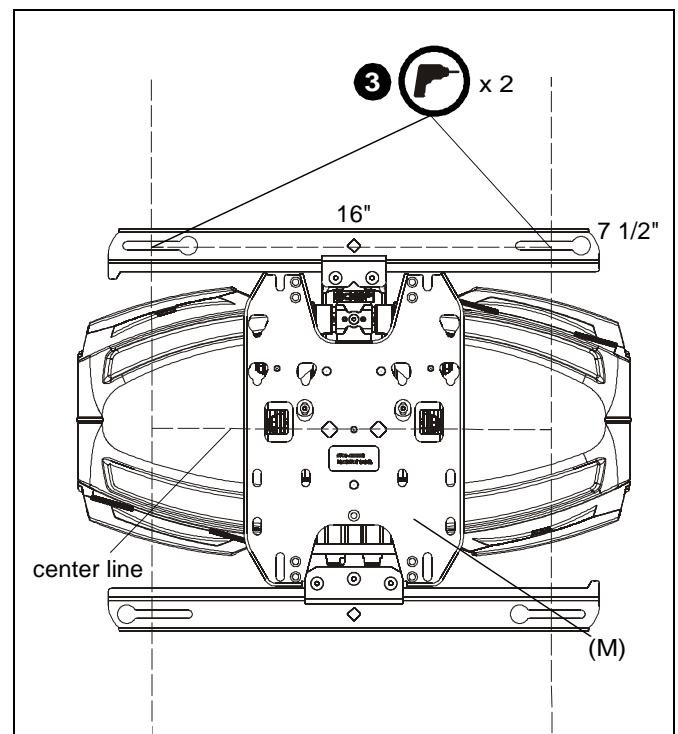

Figure 6
2. Measure 7 1/2" above desired center line and draw a horizontal line. (See Figure 6)
NOTE: Hold mount up to wall at desired mounting location if unsure about where the center line will be. The center line of the mount will coincide with the center line of the display. (See Figure 6)
3. Drill two 3/8" holes 16" apart and along the line drawn in the Step 2. Holes should be 2 1/2" in depth. (See Figure 6)